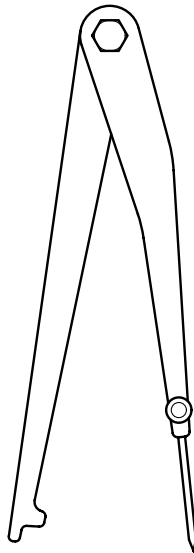

Fig. 3
- 8 Fig. 3 shows a tool used for marking out metals. Name the tool and describe how it would be set and used.